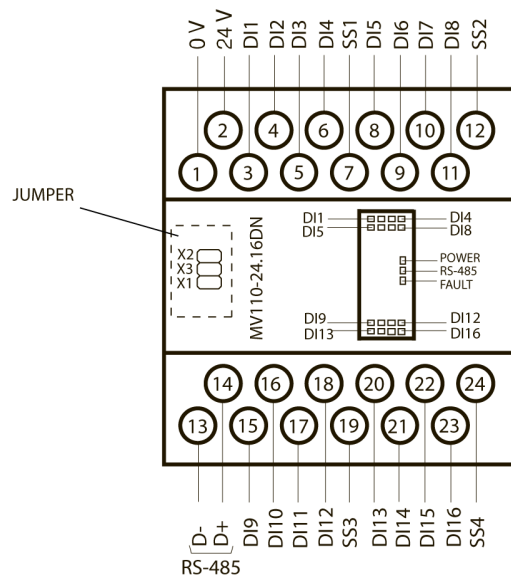

Fig. 4.1 Electrical connections of MV110-16DN
- Electrical connections are shown in Fig. 4.1 and pin assignments are shown in Table 4.1.
- Open the cover on the front panel of the module (see Fig. 4.1)